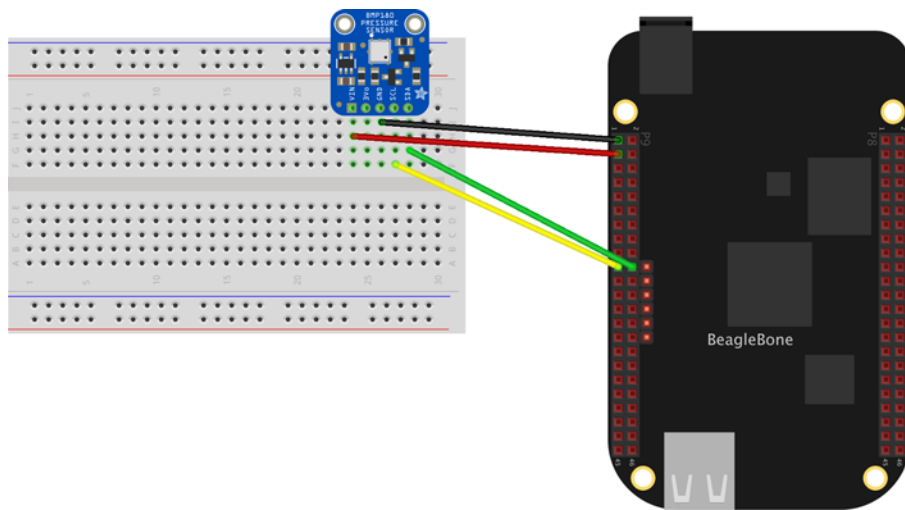

Figure 11.24 Wiring diagram for the BMP180 and the BeagleBone Black
- 1 Connect the BMP180 to the BeagleBone Black, as shown in figure 11.24.